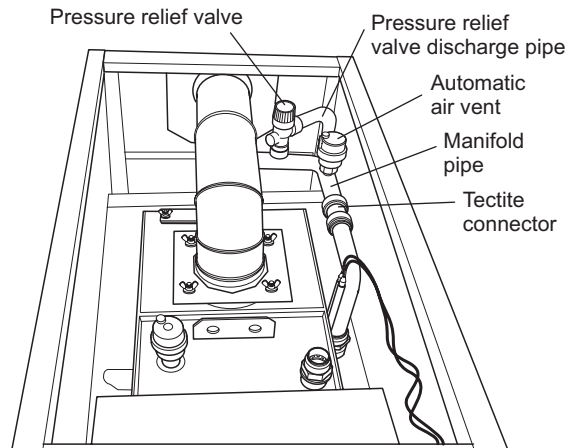

Fig. 18 - 15/21 top view (showing automatic air vent, pressure relief valve and manifold)
See Figs. 18 and 19
- 7 Fit the pressure relief valve and automatic air vent onto the manifold pipe. Then push fit the manifold pipe end into the 22mm push-fit connector on the boiler flow pipe. Refer to Fig. 18.